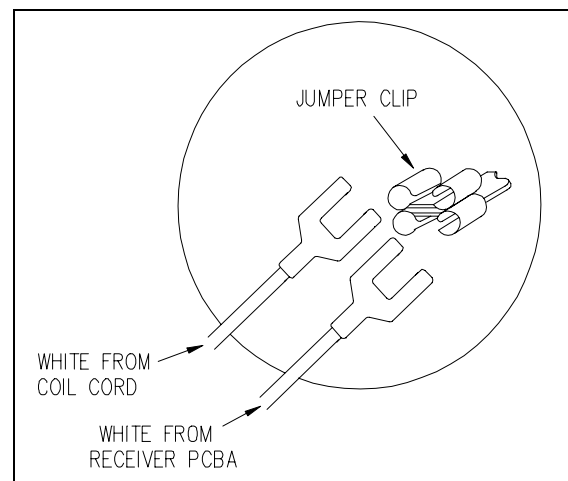

Figure 1. Jumper Clip Installation
2. Loosen the two screws on the microphone assembly, and remove the three black wires and brown wire. Locate the splice connection of the two white wires. Remove the vinyl electrical tape from the splice, and remove the larger white wire (receiver wire) from the jumper clip. See Figure 1.
5. Insert the spade terminal from the receiver white wire into the jumper clip, along with the white wire from the coil cord. See Figure 1. Tape the jumper clip with vinyl electrical tape.